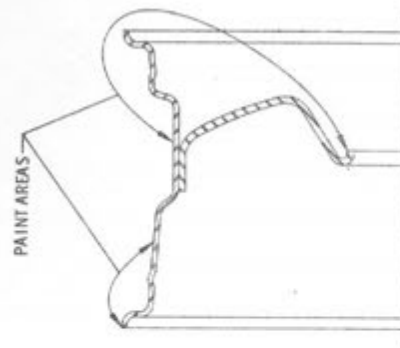

FIG. 3 N66 AND N67 WHEELS ONLY
④ N67 WHEELS ARE TO BE PAINTED LOWER BODY COLORS IN AREAS SHOWN, PER CUSTOMER ORDER. (SEE FIG. 3).